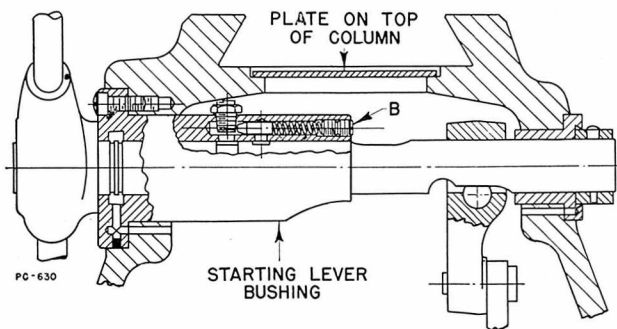

Figure 31
2. Pull overarm forward to uncover plate on top of column, Fig. 31. Remove this plate.
3. Remove first of two  $\frac{3}{8}$ " hollow headless set screws in the end of starting lever bushing at "B", Fig. 31.